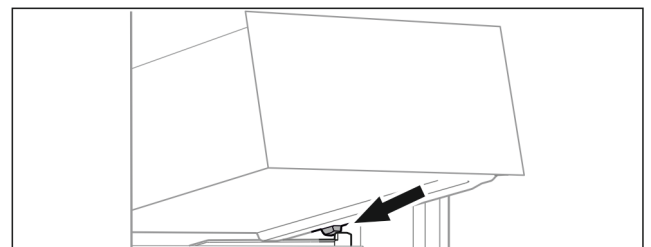

Fig. 76
- Place drawer at an angle behind the stoppers on the moulded rib. (see Fig. 76)